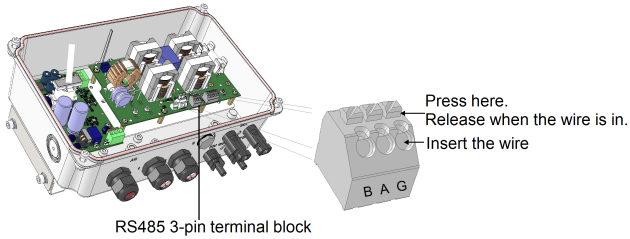

Figure 11: RS485 connector in the StorEdge Interface
1. Connect one end to the RS485 terminal block marked "RS485 to Inv." in the StorEdge Interface (see *Figure 11*):